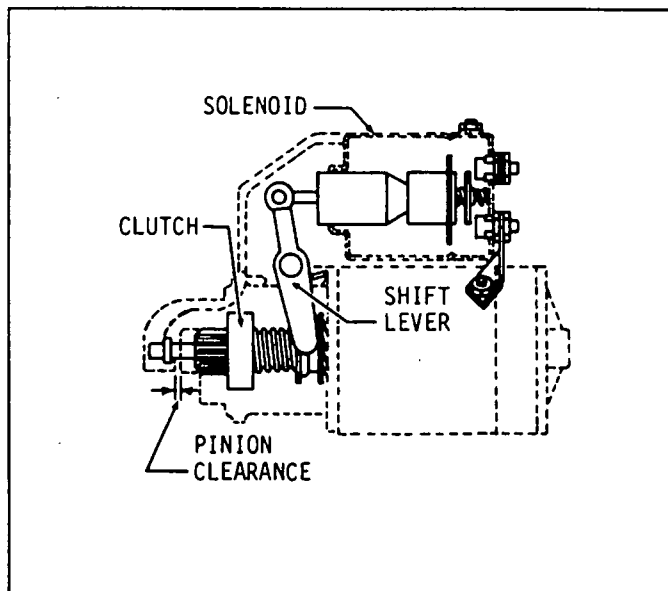

Figure 7. A Typical Starter Solenoid (SC)
On most standby engines, the starter solenoid is a part of the starter motor (see Figure 7). When energized by DC battery voltage from Wire 16, the starter solenoid (SC) should energize to (a) move the starter pinion gear into mesh with the engine ring gear, and (b) close a set of contacts to energize the starter motor itself.